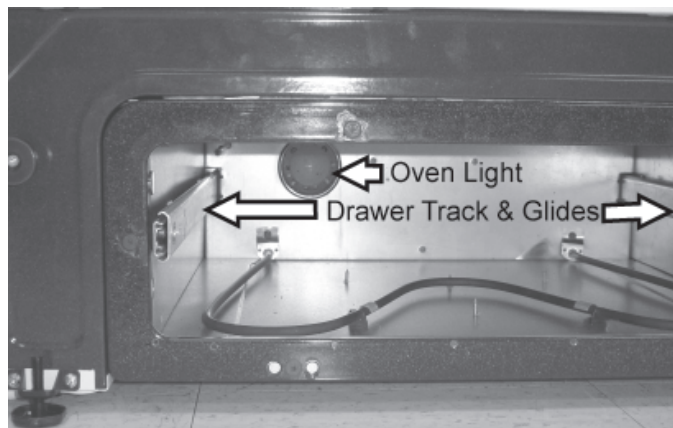

Fig. 5
6. Replace the lower oven light with a 40 Watt Appliance light bulb (Refer to Fig.5).